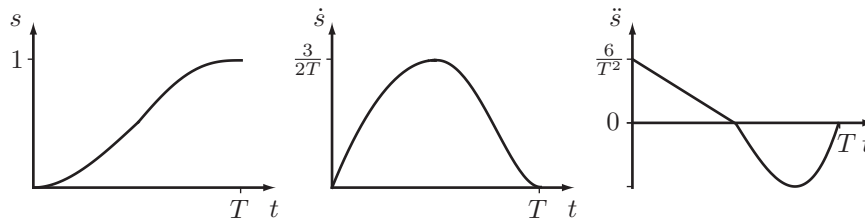

Figure 9.2: Plots of $s(t)$, $\dot{s}(t)$, and $\ddot{s}(t)$
- We can get the plot by combining the former half of plots for a cubic scaling and the latter half of plots for a quintic time scaling, as shown in Figure 9.2.